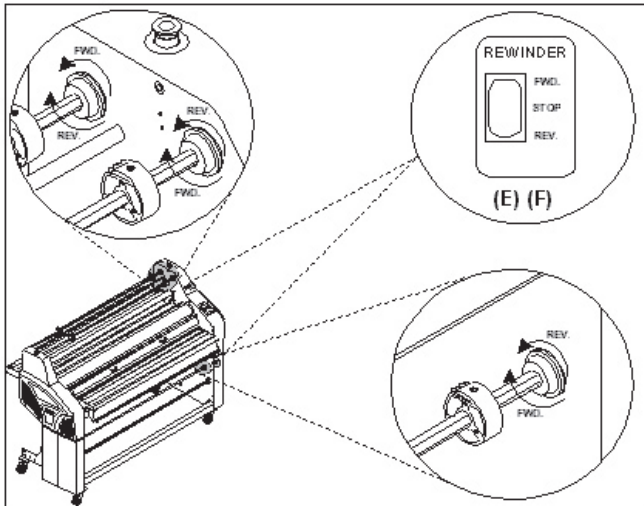

Fig 10
E. UPPER REWINDER DIRECTION SWITCH: (Figure 10) This switch enables the operator to control the direction of the upper rewind/ unwind shafts.
F. LOWER REWINDER DIRECTION SWITCH: (Figure 10) This switch enables the operator to control the direction of the Lower rewind/ unwind shaft.